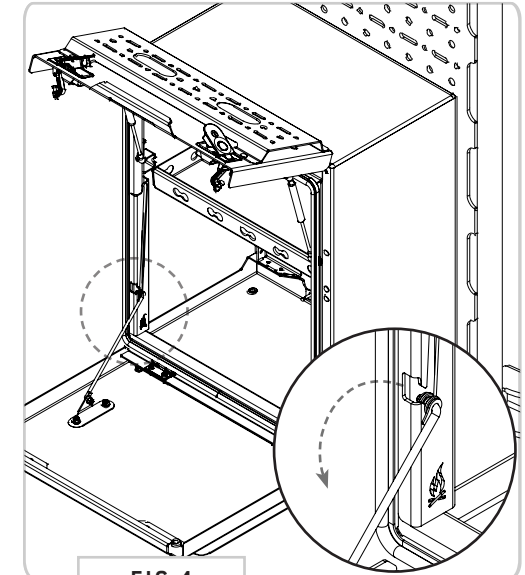

FIG 4
2.5 Open the lower door and release by pulling out the **Downstay Rod** from the rail as shown in **FIG 4**.